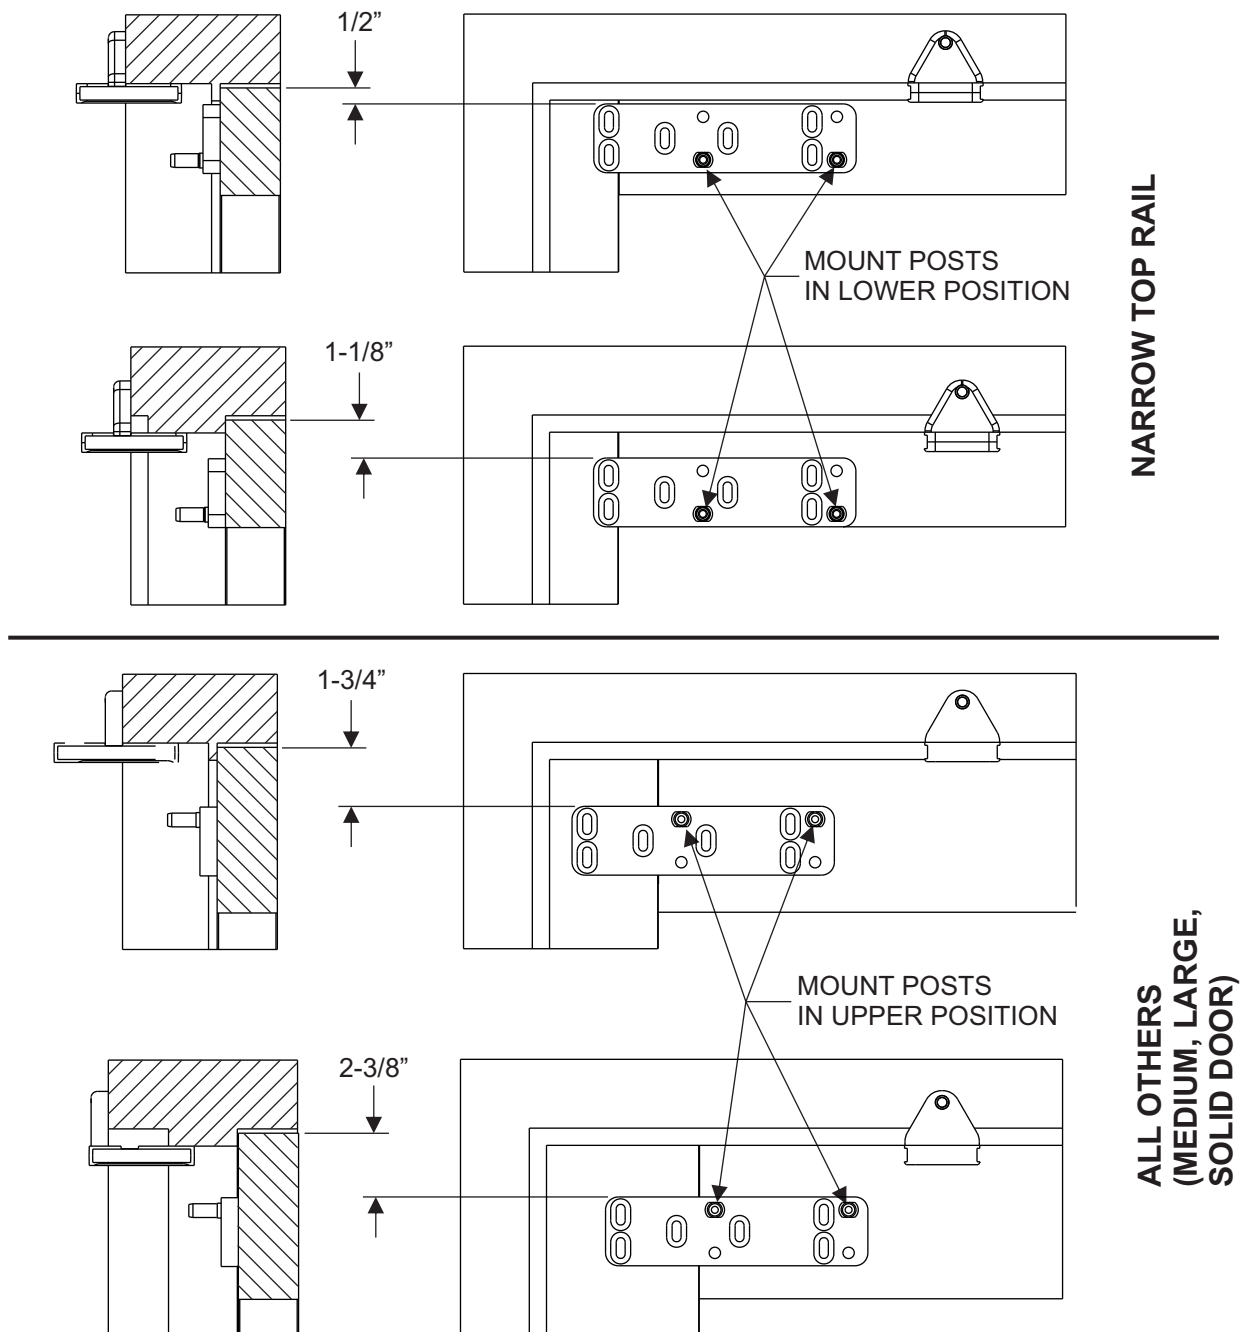

Figure 13
1. Refer to Figure 13, and DETERMINE the proper operator mounting bracket location.
9. Refer to Figure 13 and **PERFORM** one of the following as applicable: